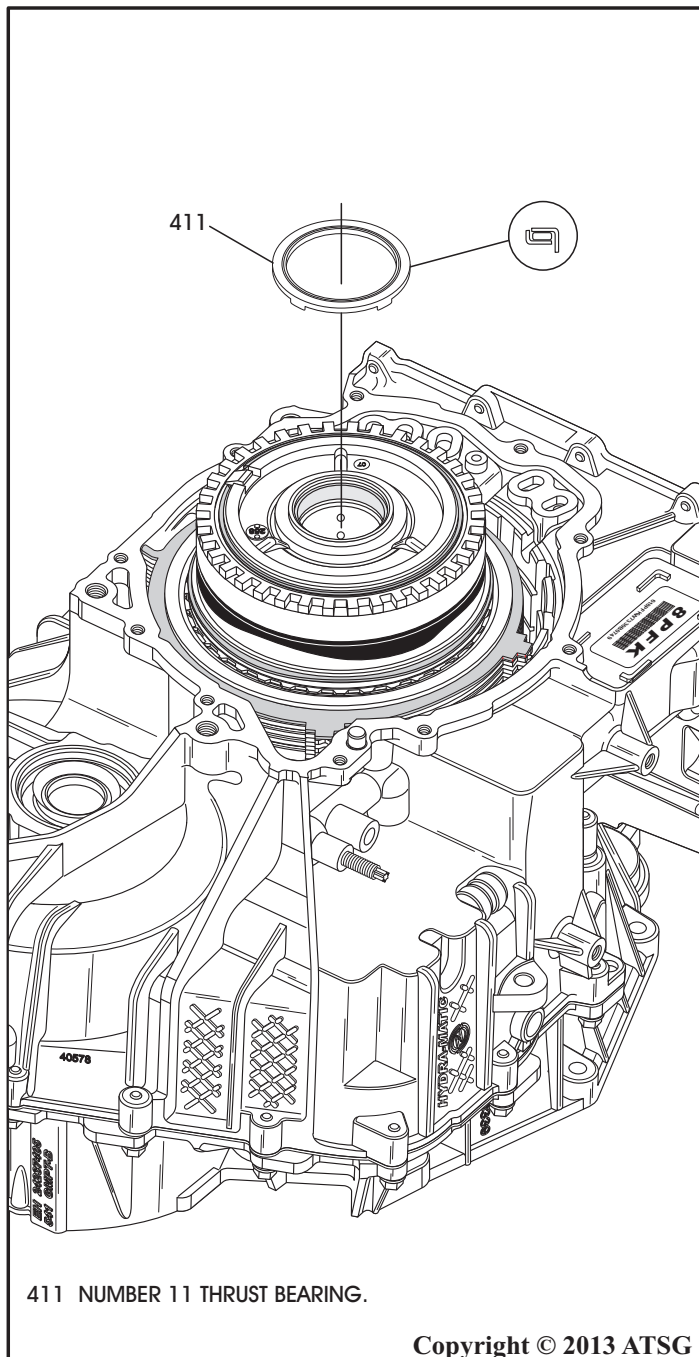

Figure 208
43. Install the number 11 thrust bearing onto the 3-5-Rev & 4-5-6 clutch housing in the direction shown in Figure 208.